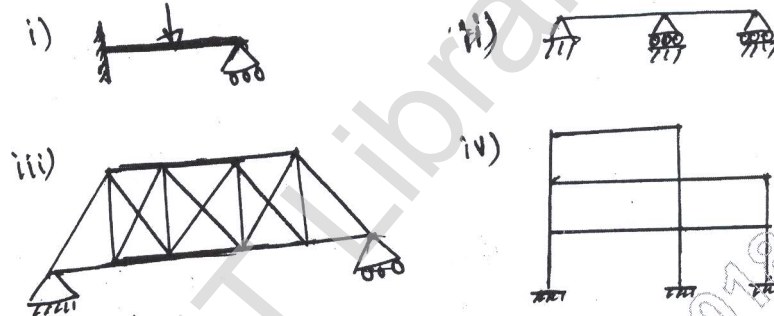

Fig.Q1(c)
c. Determine static and kinematic indeterminacy for the following shown in Fig.Q1(c).